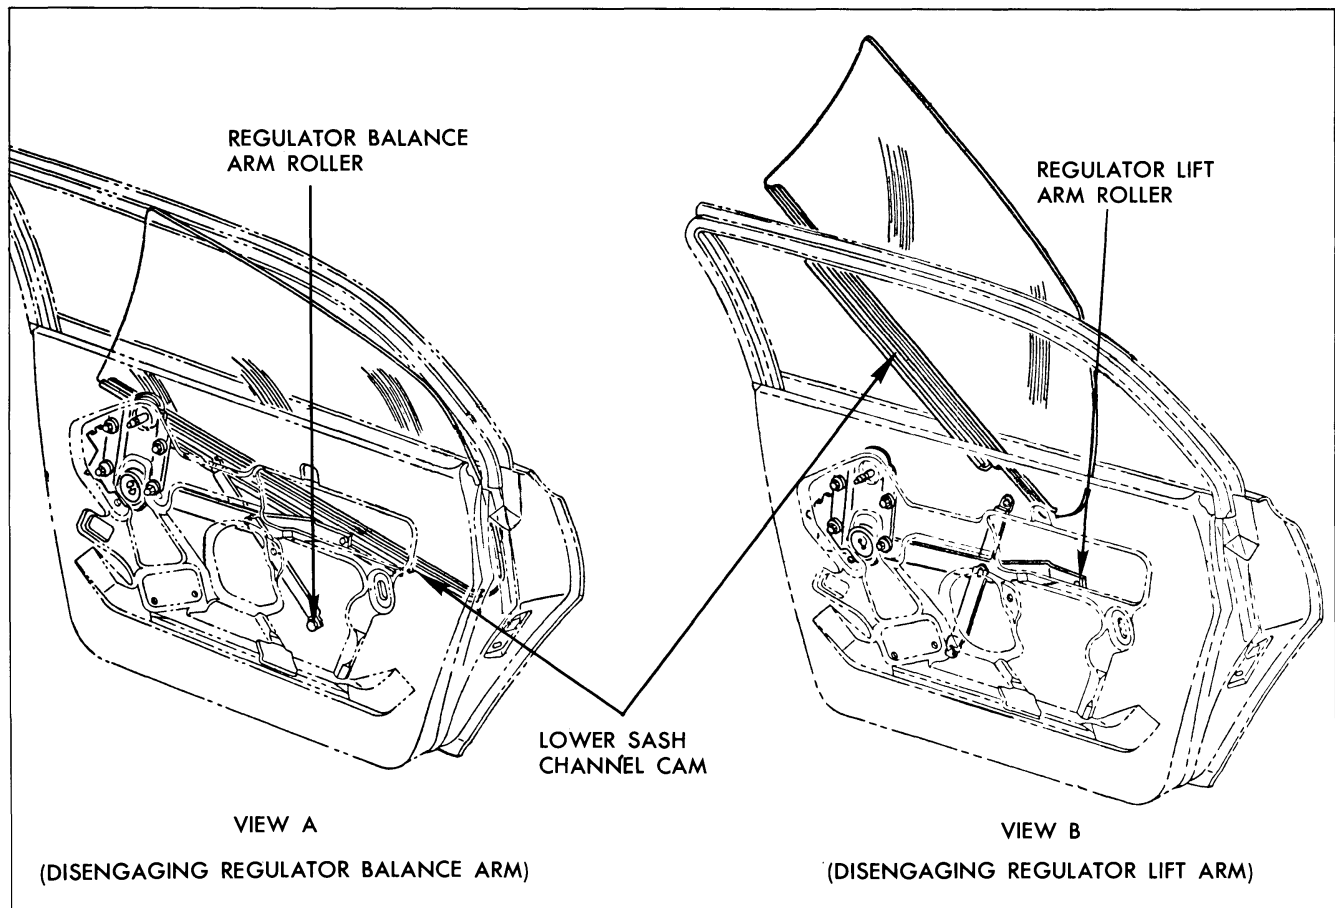

Fig. 12-41 Window Removal - 69 Style
4. Rotate glass upward and forward to disengage lower sash channel cam from regulator lift arm roller and remove window outboard of door upper frame (Fig. 12-41, View A and B).